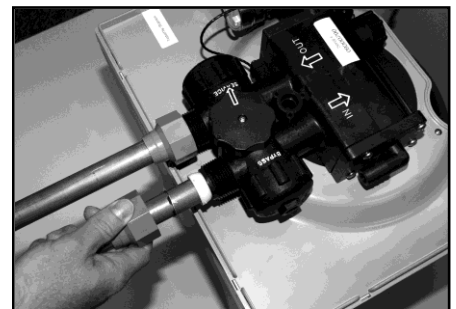

Figure 3: Connect Water Lines
- C. Figure 3.) Do NOT over tighten the connections on the plastic threads.